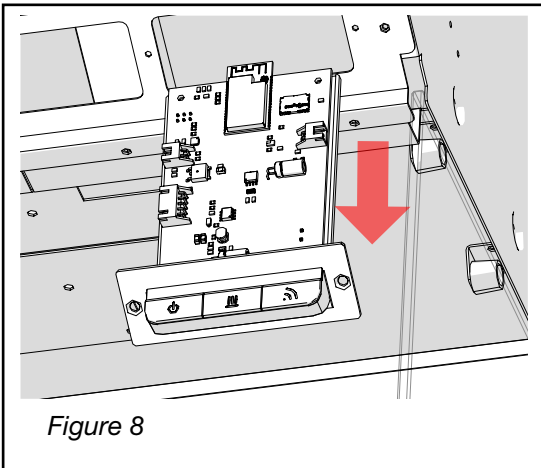

Figure 8
3. Pull out the defective on-board control assembly. (Figure 8)